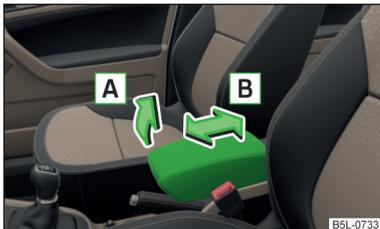

Fig. 63
► First of all, fold the armrest downwards and then lift it in the direction of the arrow **A** » Fig. 63 to one of the 4 rest positions.
► Move the cover into the desired position in the direction of the arrow **B** » Fig. 63.